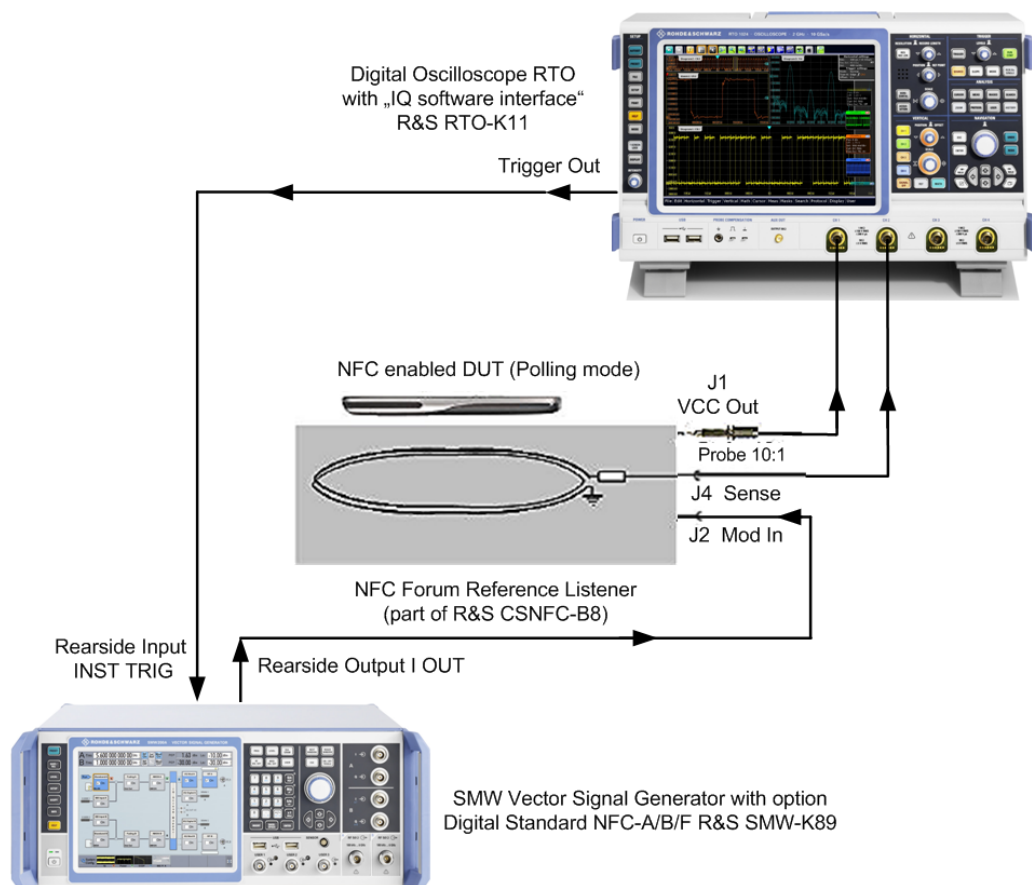

Figure 6-1: Test setup for an NFC mobile phone in polling mode (simplified schematic).
1. Connect the I Out connector of the R&S SMW to the XJ2 (MOD IN) connector of the NFC Forum reference listener, see Figure 6-1.